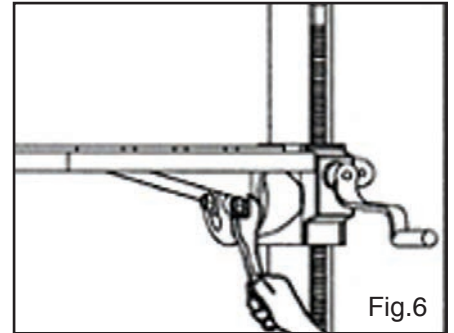

Fig.6
4. Install table and clamp with bolt. Fig. 6.